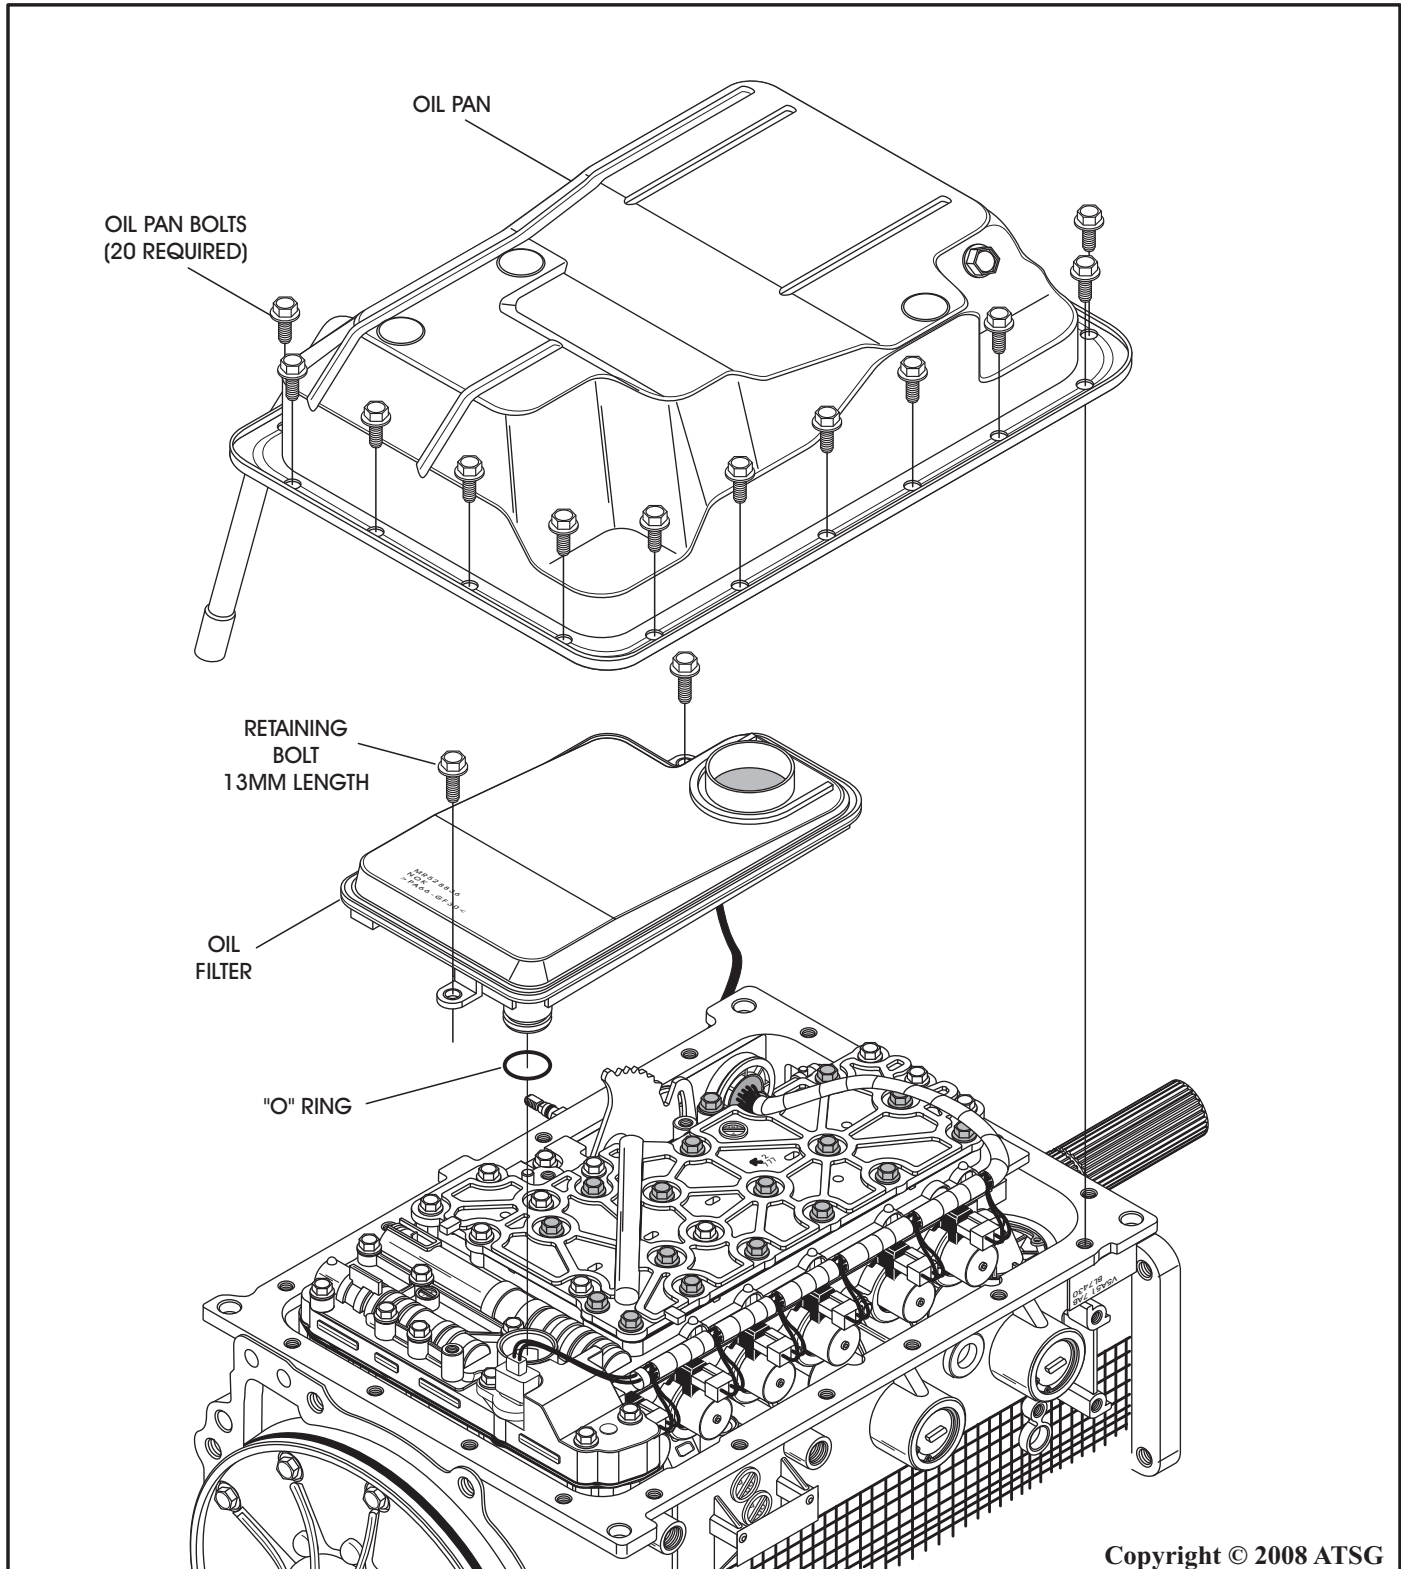

Figure 34
1. Remove the twenty oil pan bolts and remove the oil pan, as shown in Figure 34
2. Remove the two oil filter retaining bolts and remove and discard the oil filter, as shown in Figure 34.